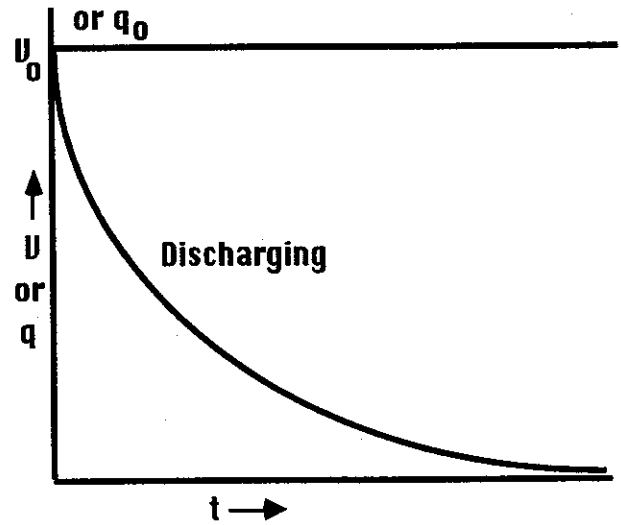

Fig. 8-3
The curve showing V or q plotted against time [Eqs. (3) and (4)] for the process of discharging is shown in Fig. 8-3. Note that V (or q) approaches zero asymptotically.